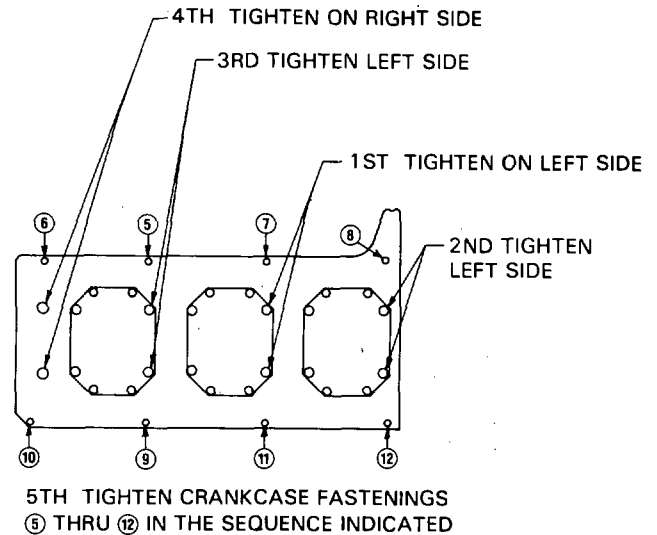

Figure 8. Left Side of Crankcase
h. Six Cylinder Geared Engines (Open Bottom Crankcase), Standard Cylinder Flange (See Figure 8).